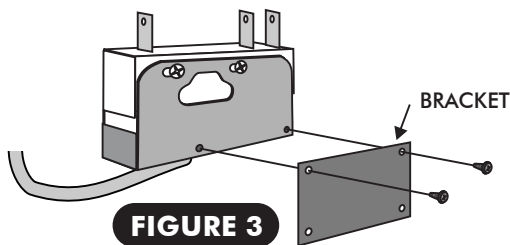

FIGURE 3
- ATTACH THERMOSTAT SWITCH TO THERMOSTAT MOUNTING BRACKET (SEE FIGURE 3) AND MOUNT IN A POSITION WHERE IT WILL NOT BE DAMAGED OR SUBJECT TO EXCESSIVE MOISTURE.